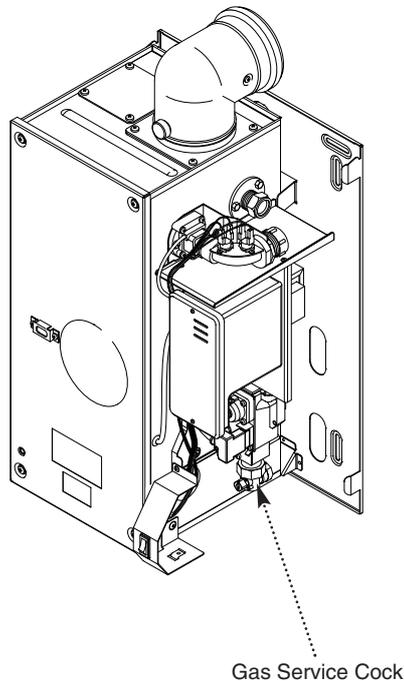

Fig. 15
2. The connection to the appliance is a $\frac{1}{2}$ in BSPT internal threaded connection located at the rear of the gas service cock (Fig. 15).